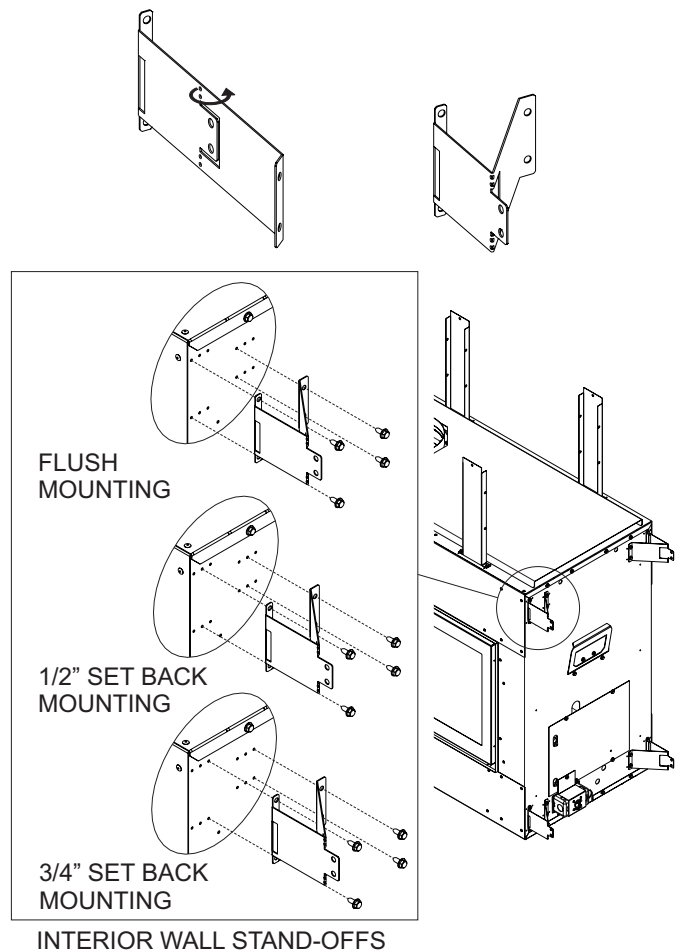

Figure 22
3. Secure the four framing brackets and hand bend them into a V shape as shown in **Figure 22**. Secure with #10 x 1/2 inch hex-head screws.
4. Locate the nailing flanges on the sides of the fireplace (two each side). See **Figure 22**.